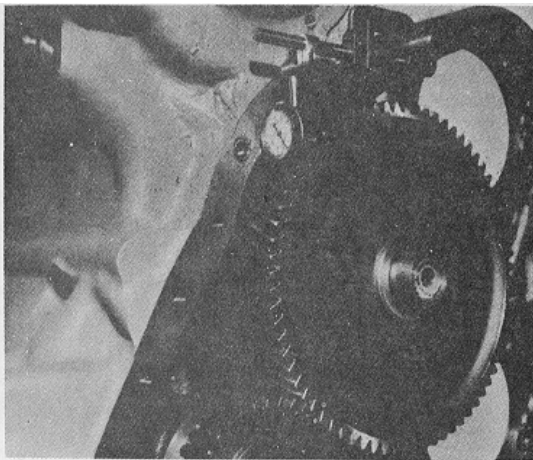

Fig. 14-4, (N11424). Checking gear backlash
4. Attach dial indicator gauge to block, Fig. 14-4, check the camshaft to crankshaft gear backlash. Rotate gear as far as it will move, zero the gauge. Rotate gear in opposite direction and read dial.